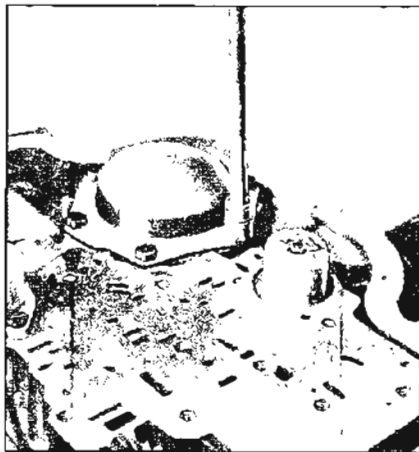

Figure 5-718
5. Install attaching screws. Torque bolts to 15-20 ft. lbs. See Figure 5-718.